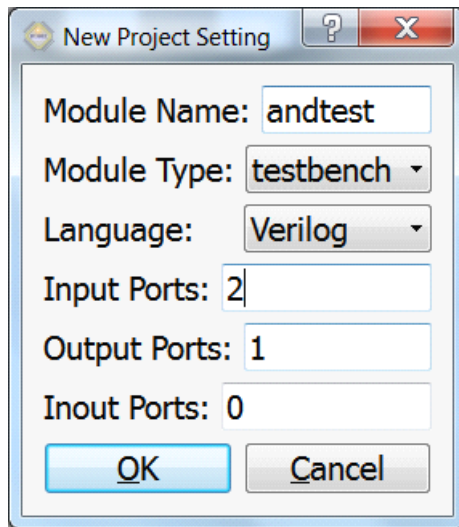

Fig. 9. Create a new testbench, “Module Type” must set as “testbench”
- 1) Create a new design. Press on icon  in toolbar, in the pop up dialog, fill in blank with the following parameters in fig. 9.